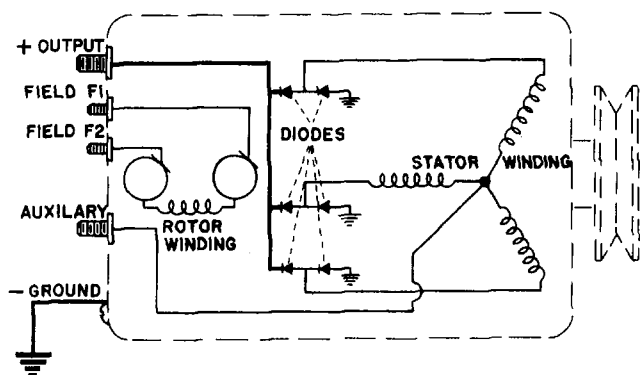

Figure 1
* Same as Figure 1 except field terminal F-2 externally grounded with a strap connector. Lycoming applications only.